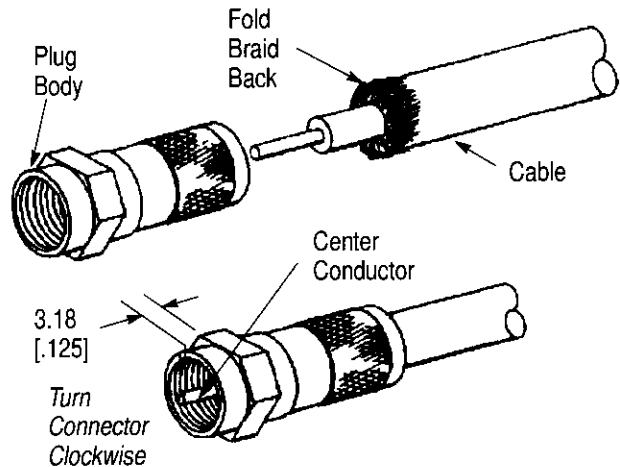

Figure 5
**3.3. Connector 221540** (Figure 5)